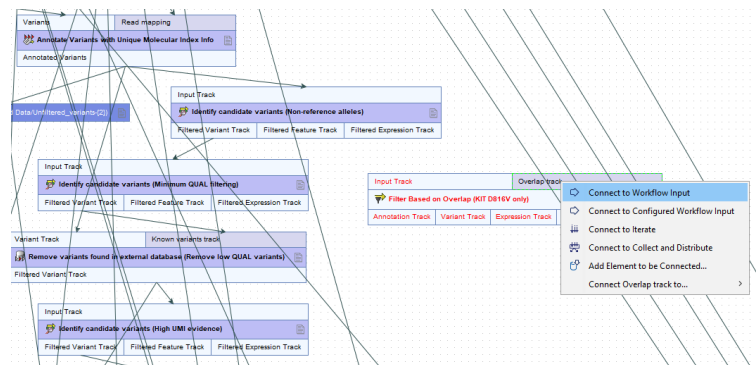

Figure 11: Connect a Workflow Input element to the "Filter Based on Overlap (KIT D816V only)" element. This will be used to specify the KIT D816V target region.
16. Right-click on the "Overlap track" input channel of the **Filter Based on Overlap (KIT D816V only)** element and select the option "Connect to Workflow Input" from the menu that appears, as shown in figure 11.